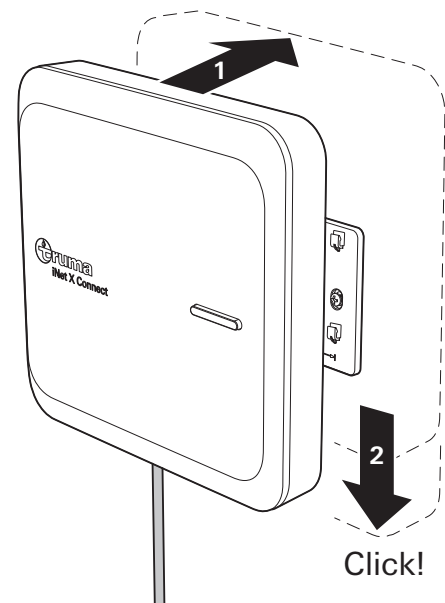

Fig. 19
- ❗ Alternatively, the Connect can be inserted into the mounting plate rotated by 180° so that the connection for the plug of the cable is not at the bottom (Fig. 19), but at the top.